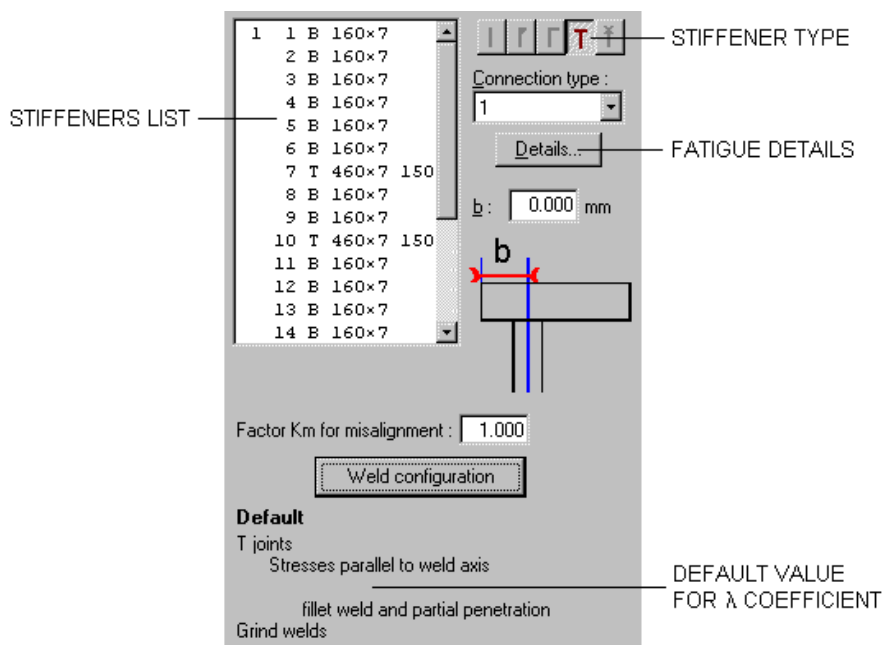

Figure 42: FATIGUE MANAGEMENT WINDOW
- the details... button (Figure 42) which display a view of the connection type and of the collar plate with the relevant K_h and K_l coefficients ;
- the Connection type list (Figure 42)